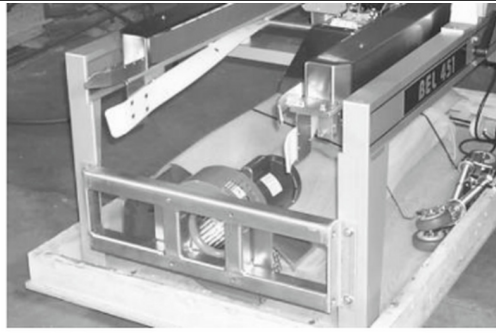

Figure 1 - Machine as Shipped
- The vacuum plenum assembly is removed for shipping. Re-install it on the front of the machine as shown in Figure 1 to Figure 3 below.